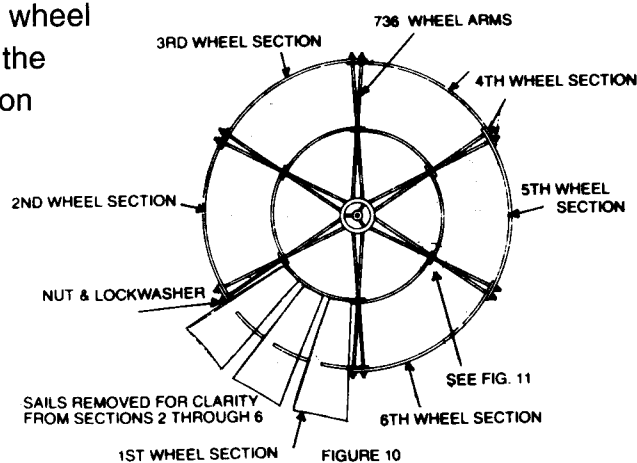
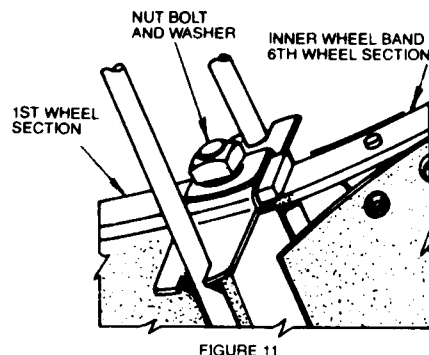

FIGURE 10
FIGURE 11
- Take one of the six wheel sections and with the concave side of the sail facing away from the front of the wheel hub, place the wheel arms through the holes in the outer wheel band. Take the second wheel section and place it over the top of the first section and loosely install the lockwashers and nuts. See figure 10. At the inner wheel band the first section should be against the wheel arm tabs and the second section on top. Loosely install a nut and bolt. See figure 11.
- Continue installing each of the four remaining prefabricated wheel sections with the inner and outer wheel bands lapping under and over as shown in figure 10. If the holes at any of the section joints do not align exactly, use a drift pin to pull the holes in line and then clamp parts together with vice grips. Remove the drift pin and install the nut and bolt. Remove the vice grips and move on to the next section.